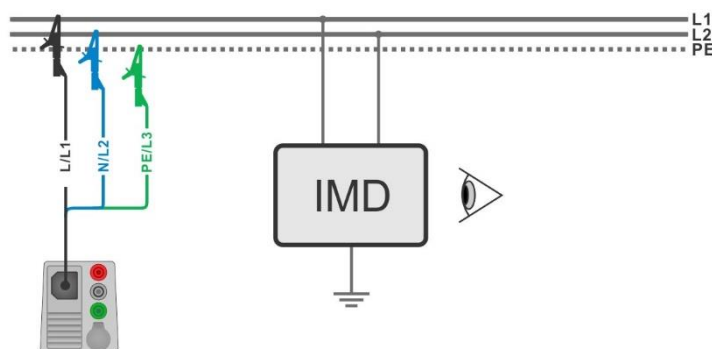
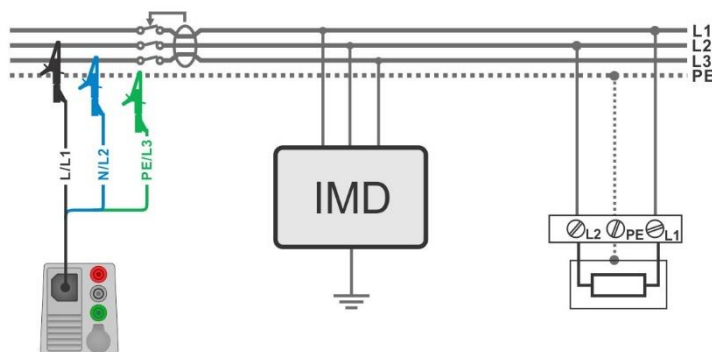

Figure 7.90: Measurement of highest First fault leakage current with 3-wire test lead
Figure 7.91: Measurement of First fault leakage current for RCD protected circuit with 3-wire test lead
- › Connect 3-wire test lead to the object under test, see *Figure 7.90* and *Figure 7.91*.